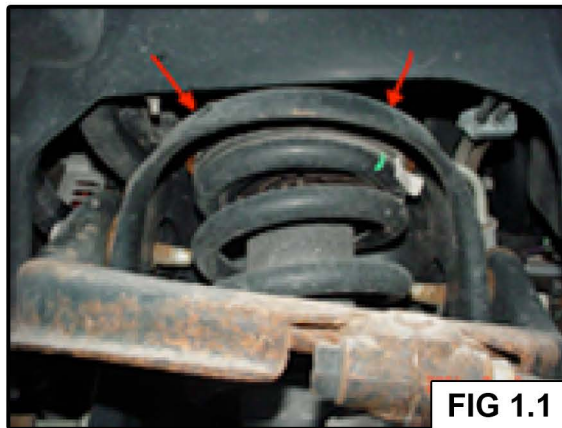

FIG 1.1
4. Remove upper strut mount retaining nuts. (Fig 1.1)